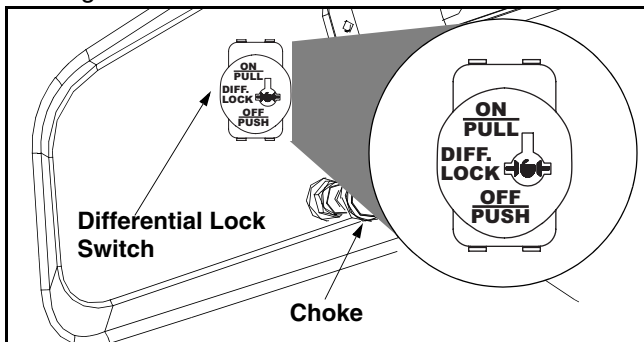

Figure 7
The choke lever is located on the left side of the dash panel. The choke is used when starting a cold engine. It richens the fuel mixture for cold weather starting. See Figure 7.
The differential lock switch is located on the left side of the dash panel. When pulled out, the differential switch locks the differential so both drive wheels will pull equally when rear wheels start to slip. See Figure 7.
- Stop or slow vehicle speed and pull the differential lock to lock differential. See Figure 7.